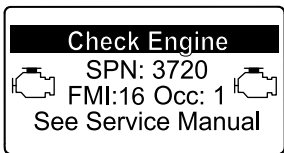

Figure 36
- Engine warning SPN 3720, FMI 16 (Figure 36)